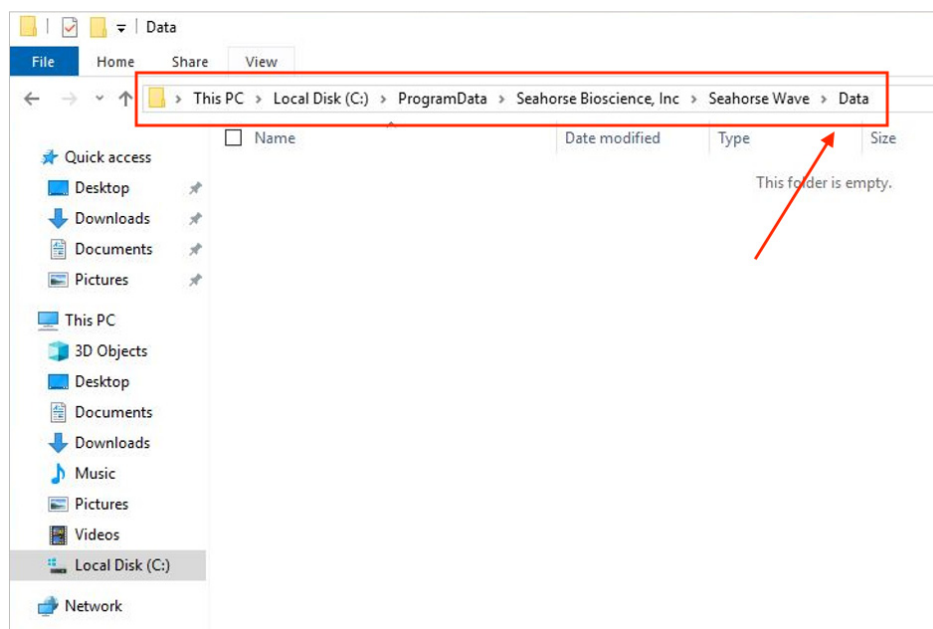

Figure 16. The **Instrumentconfiguration.xml** and **Configuration.dat** file location (C:\ProgramData\Seahorse Bioscience, Inc\Seahorse Wave\Data).
- 3 Go to: C:\ProgramData\Seahorse Bioscience, Inc\Seahorse Wave\Data (Figure 16) and copy the **Instrumentconfiguration.xml** file and the **Configuration.dat** file from your external storage device to this location.